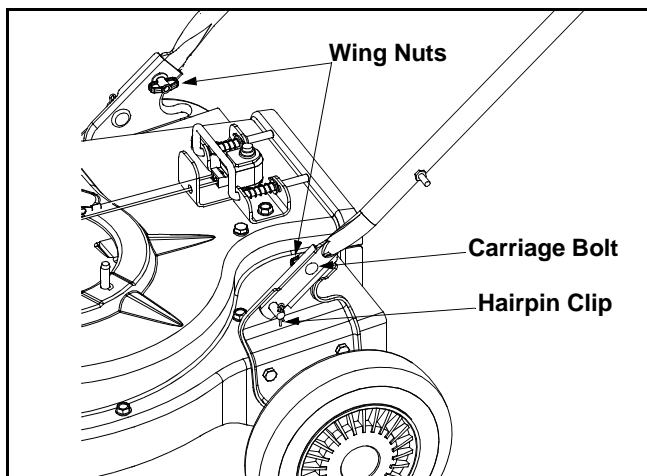

Figure 2
- Remove the hairpin clips from the handle brackets on the Yard Vacuum and remove the carriage bolts and wing nuts from the lower handle. See Figure 2.